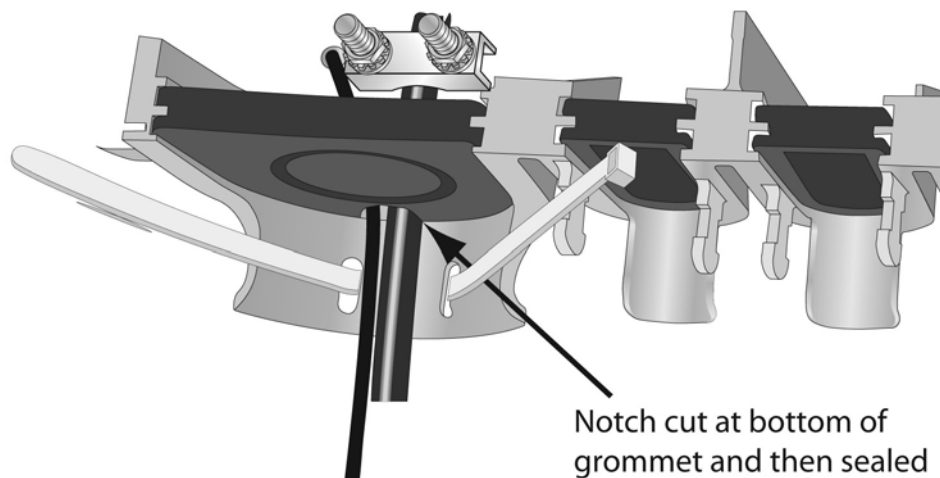

Figure 12. Sealing Grommet and Inserting Tie-Down
2. Place the grommet back (with the notch at the bottom) and **seal the grommet** with tape (not provided) and silicone sealant (not provided). Refer to Figure 12.
3. Insert a UV-rated wire tie (not provided) through the slots at the bottom of the entrance as shown in Figure 12.